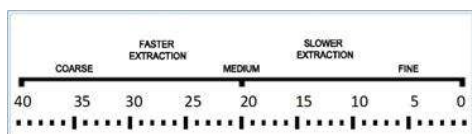
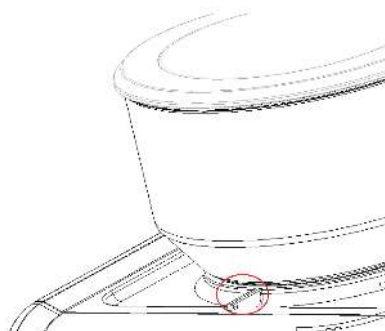

**Fig. 3:**
**Fig. 4:**
2. The Bean Hopper has markings indicating coffee coarseness (see Fig. 3). To adjust the grind setting, ensure that your desired setting on the Bean Hopper is aligned with the mark on the top cover (as shown in Fig. 4).